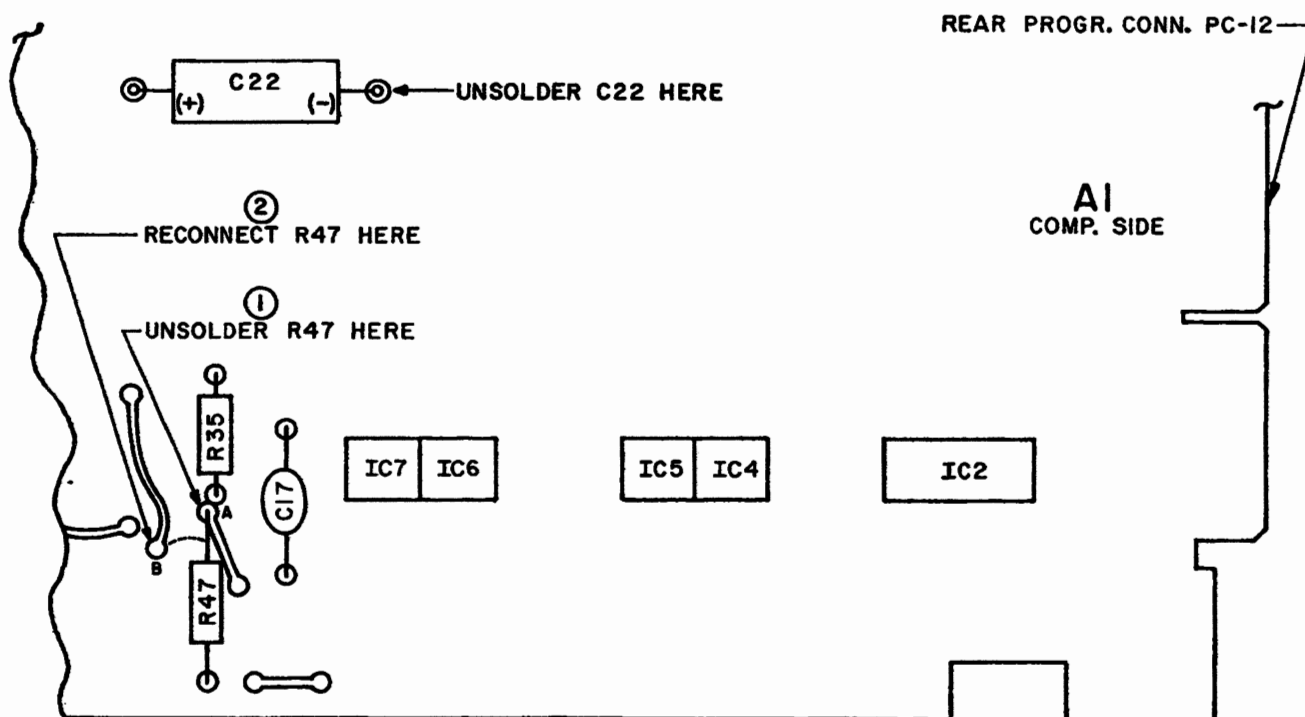

FIG. 3-27 LOCATION OF OVERVOLTAGE SENSING LEAD DISCONNECT.
3-113 The problem encountered in operating power supplies with overvoltage detection circuits in a redundant parallel configuration is that the overvoltage sensing leads are usually permanently wired to the error sensing leads. If now an overvoltage occurs on *either* power supply, *both* supplies will shut down, defeating the purpose of the redundant circuit. In the ATE power supplies, provisions are made on the control circuit P.C. card (A1), to disconnect the overvoltage sensing from the error sensing terminal, reconnect it to the output terminal and remove C26, thus successfully solving the problem described. (See FIG. 3-27).
- 1) Remove covers from both ATE power supplies, locate A-1 P.C. card and rewire overvoltage sensing as described in par. 3-113 and as illustrated in FIG. 3-27. Remove capacitor C26 as described in par. 3-113 and as illustrated in FIG. 3-27.